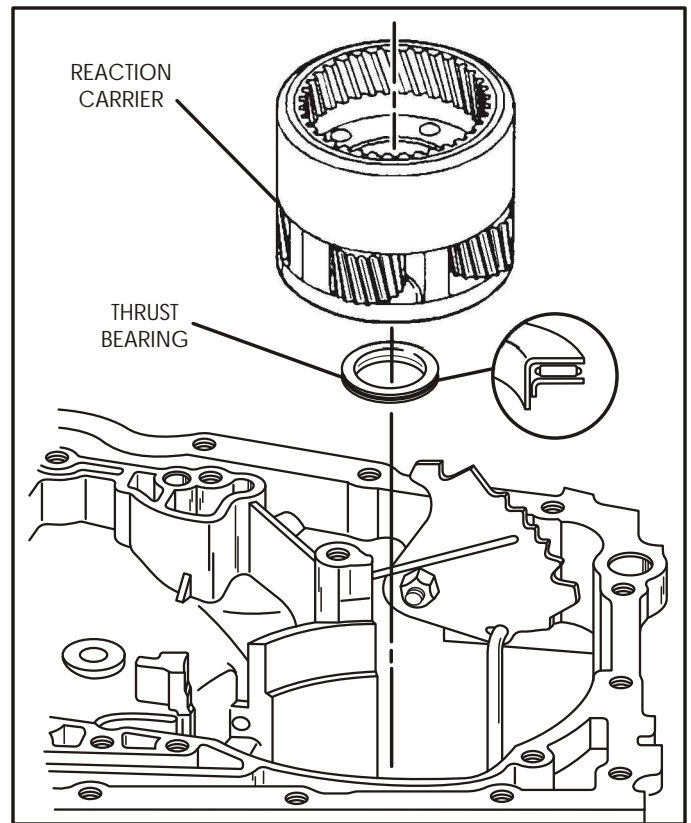

Figure 159
40. Install the thrust bearing on top of the reaction sun gear in the direction shown in Figure 159.
41. Install the reaction planetary carrier by rotating into position to engage the sun gear and the splines on the final drive sun gear shaft. Refer to Figure 159.